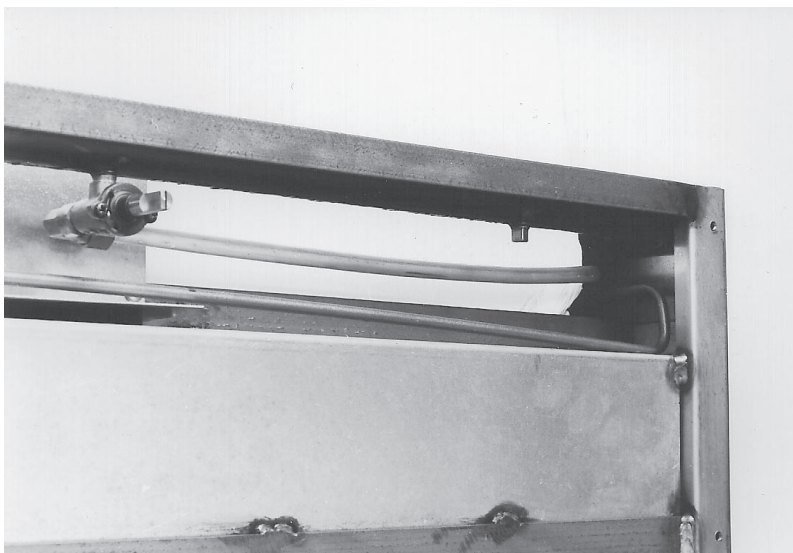

Fig. 5
3. With a  $\frac{5}{8}$ " wrench disconnect the elbow compression fitting. (Fig. 5)
4. Disconnect the valve from the manifold pipe. (See Fig. 5)